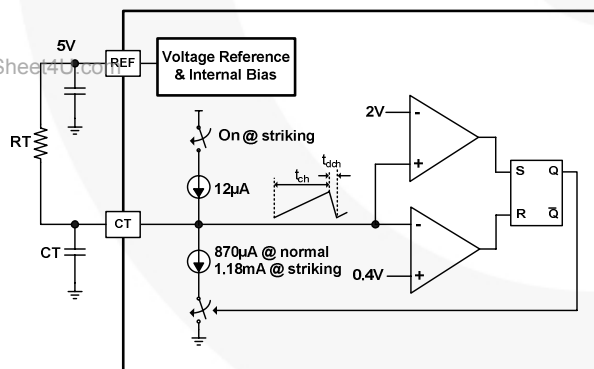

Figure 35. Main Oscillator Circuit
In normal mode, the external timing capacitor (CT) is charged by the current flowing from the reference voltage source, which is formed by the timing resistor (RT) and the timing capacitor (CT). The sawtooth waveform charges up to 2V. Once CT voltage reaches 2V, the CT begins discharging down to 0.4V. Next, the CT starts charging again and a new switching cycle begins, as shown in Figure 35. The main frequency is programmed by adjusting the RT and CT value. The main frequency is calculated as: